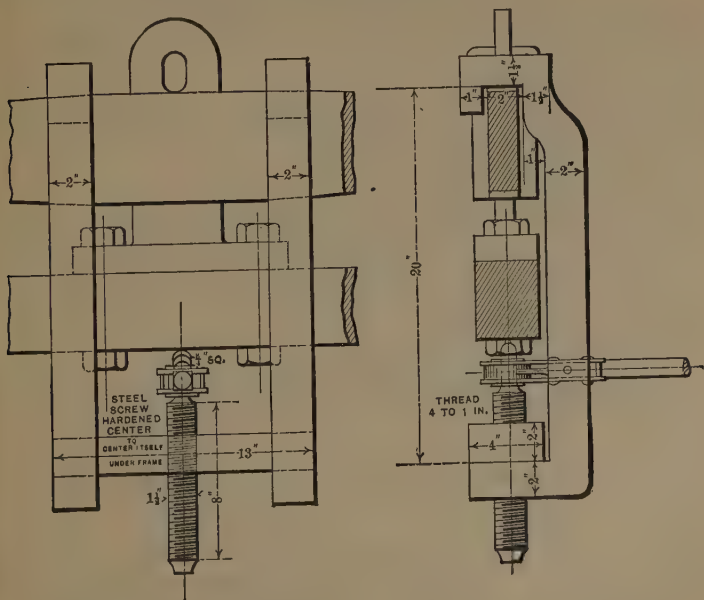

Fig. 406. Clamp for Removing Gib in Spring Equalizer.
A. As shown in Figs. 406 and 407, the latter being for consolidation engines and having two straps, one marked *A*, going inside the frame, and the other marked *B*, and having a flaring bottom, going outside. This is so shaped as to allow room for the ratchet handle to work. The nut plate is grooved